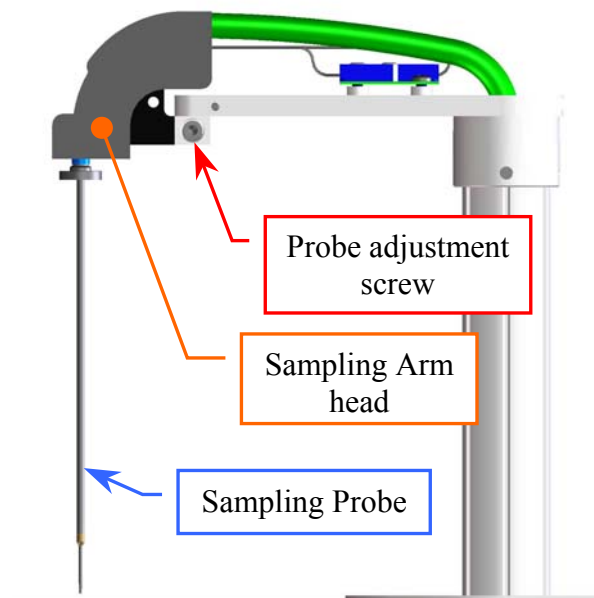

Fig. 3 – Probe adjustment screw
- k. loosen slightly the Probe adjustment screw places on the Sampling Arm head (**Fig. 3**);
- m. tighten the Probe adjustment screw (**Fig. 3**);